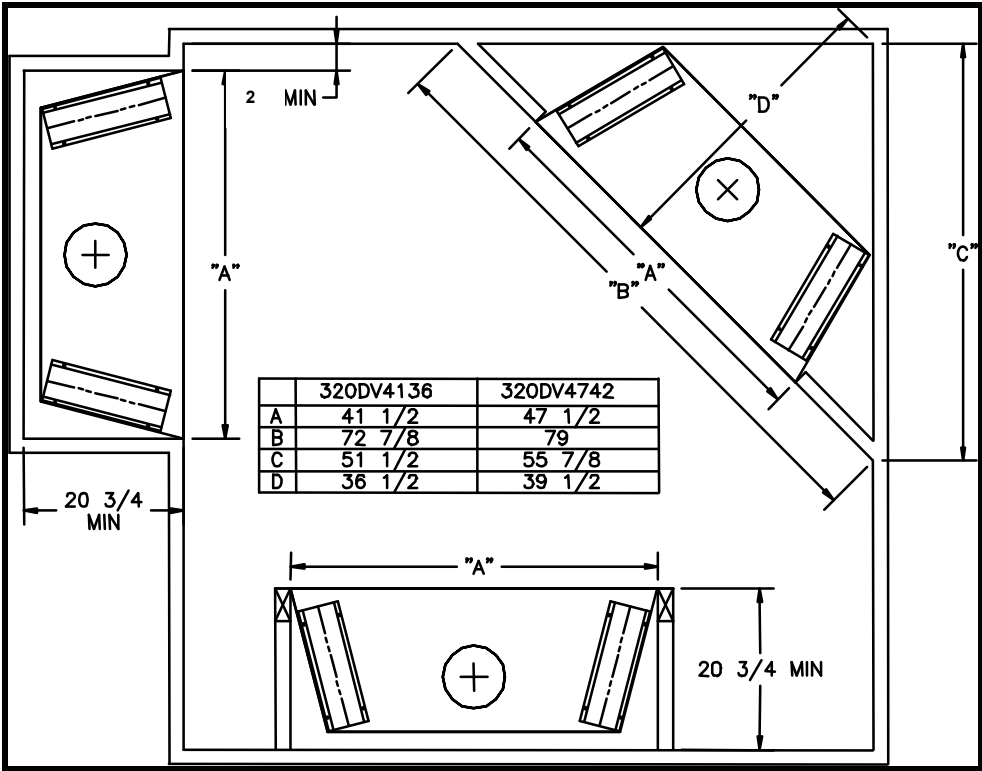

Figure 2: Fireplace Locations and Minimum Clearances Requirements
- This fireplace may be installed along a wall, across a corner, or use an exterior chase. Refer to Figure 2 for suggested locations.